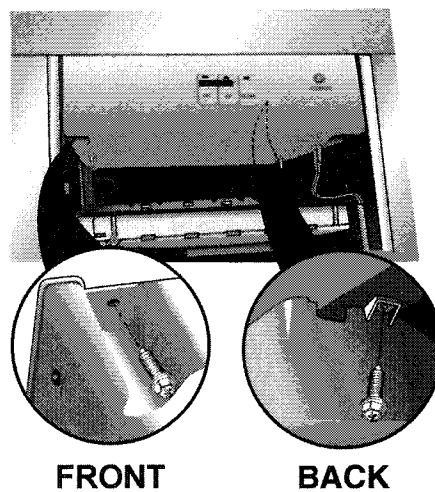

Fig. 3-5
5. Remove the four (4) Hex-Head screws securing the control box to the top of the ice maker cabinet. (Fig. 3-5)